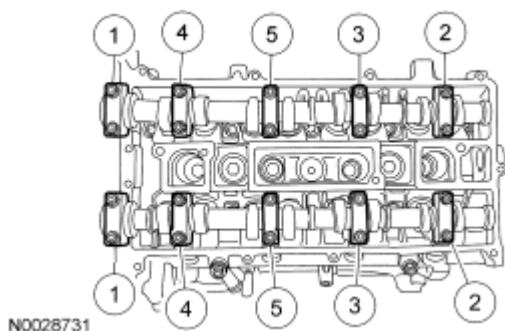

Fig. 290: Identifying Loosening/Tightening Sequence Of Camshaft Bearing Bolts
- Loosen the camshaft bearing bolts in the sequence shown in **Fig. 290**, one turn at a time. Repeat until all the tension is released.